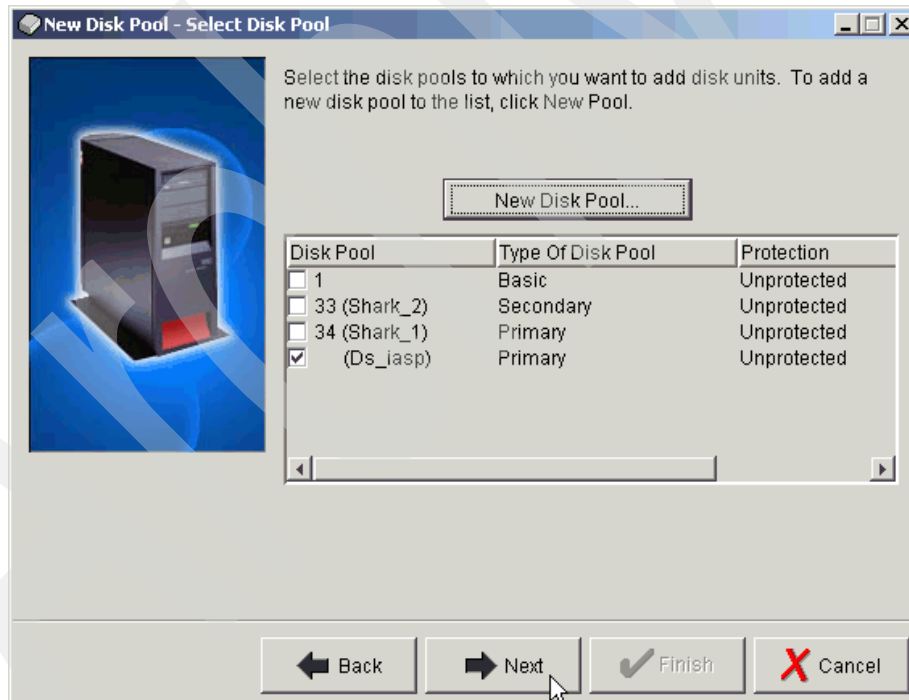

Figure 17-11 New Disk Pool - Select Disk Pool
- A confirmation window, such as the one shown in Figure 17-11, opens and summarizes the disk pool configuration. Select **Next** to continue.